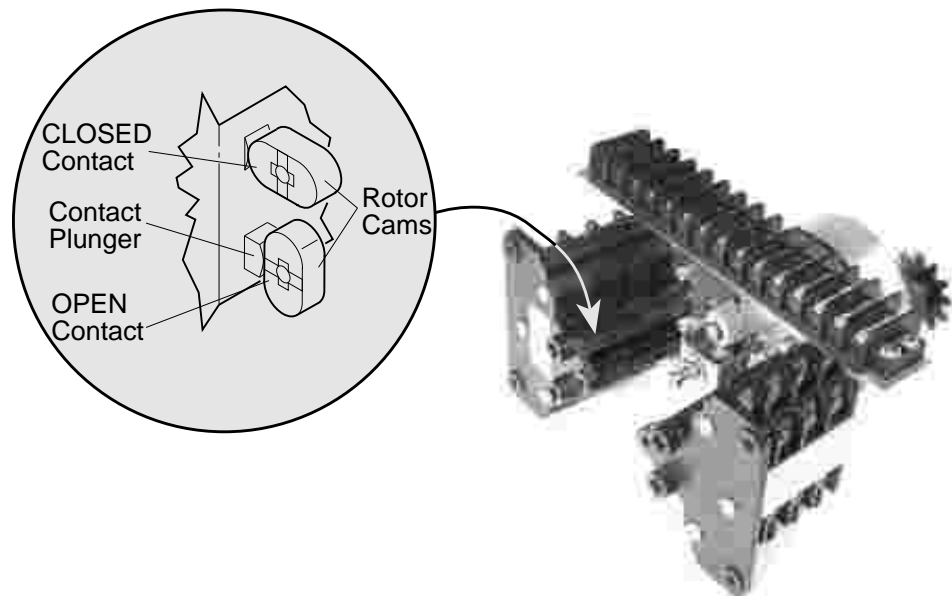

Figure 14 - Limit Switch OPEN/CLOSE Rotor Cam orientation
6. A. If your Limit Switch Rotor Cams *did not* trip at the full OPEN position point, turn the Intermediate Open Shaft in a CW ↻ direction until the Open Limit Rotor Cam rotates 90° to make an OPEN contact (OPEN limit trip point = Rotor Cam in a vertical orientation to make an OPEN contact); see figure 14 for orientation. Once you have reached the full OPEN position point, use the Handwheel to rotate the Intermediate Shaft slowly in the CCW ↻ direction until the Rotor just trips again.